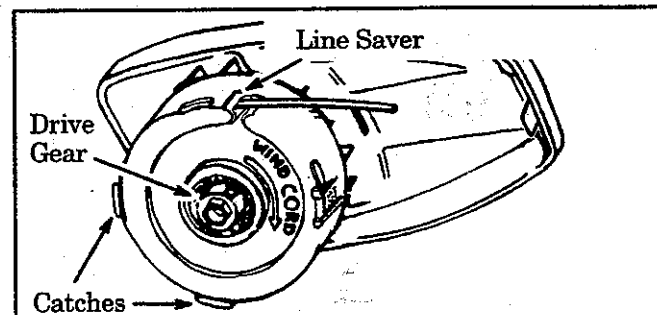

Figure 13
- f. Insert 3 to 4 inches of the end of the line (on the spool) through line saver in hub. Figure 13.